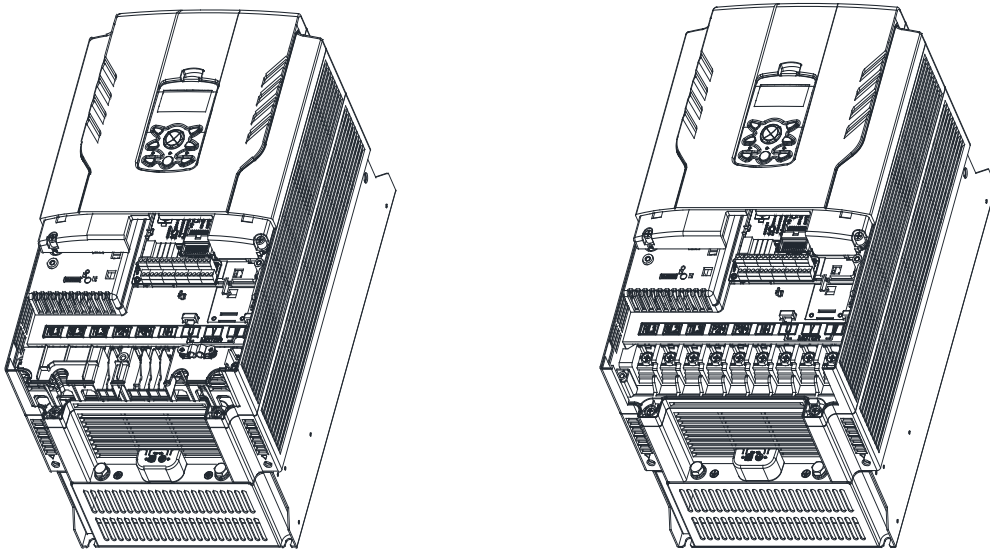

Figure 4. Remove power cover and cable guide
- ① Remove the power cover and cable guide of the product as shown in Figure 4.